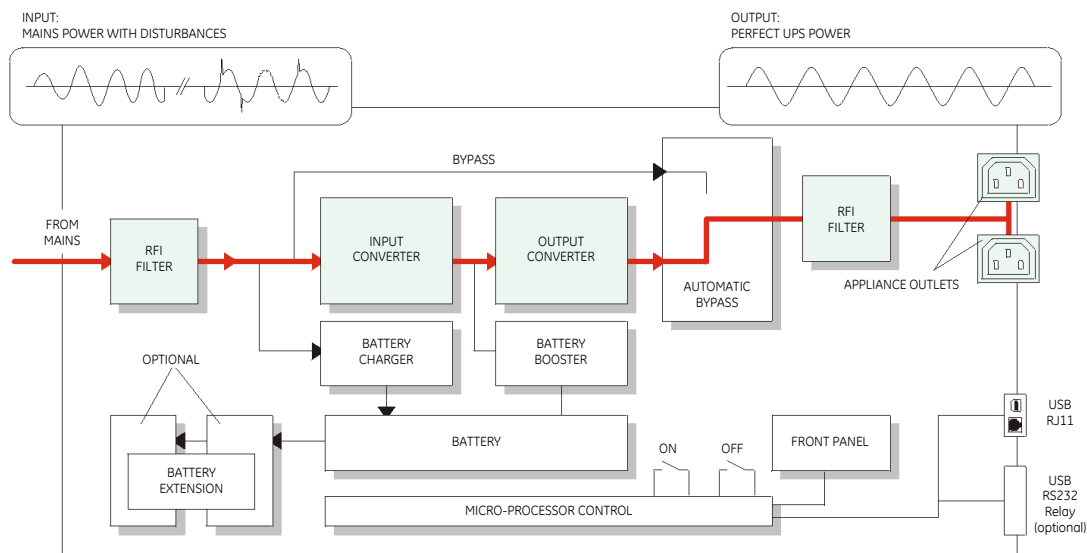

Figure 1 Block diagram of the VH - 700-3000 UPS, mains present
The UPS stores electric energy in batteries housed in the unit. This allows the UPS to supply output power even when the incoming mains power is cut off completely. Energy is stored as Direct Current (DC), while input and output energy are Alternating Current (AC) in sine wave form. Therefore the UPS contains an input converter (AC to DC) and an output converter (DC to AC) (See fig.1).